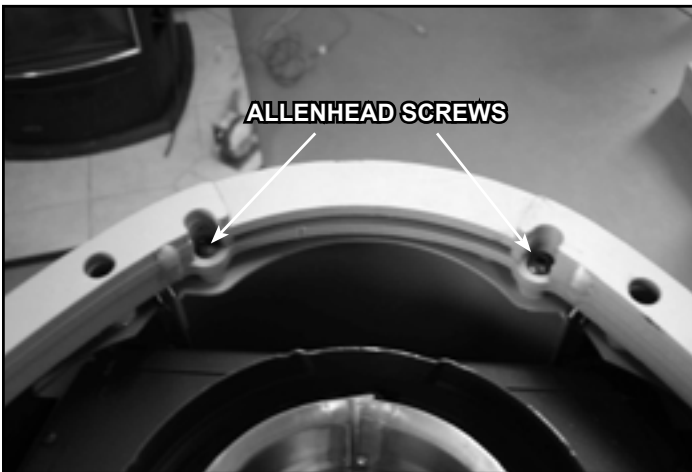

Figure 8.8
Gas line and power cord are shipped inside back panel. To access the gas line and power cord, remove the top plate from the appliance. Remove and retain the two Allen head screws that hold the back panel in place. Refer to Figure 8.8.
3. Remove and retain the Allen head screws that hold the solid back panel in place. (Figure 8.8) Remove and discard the solid back panel.